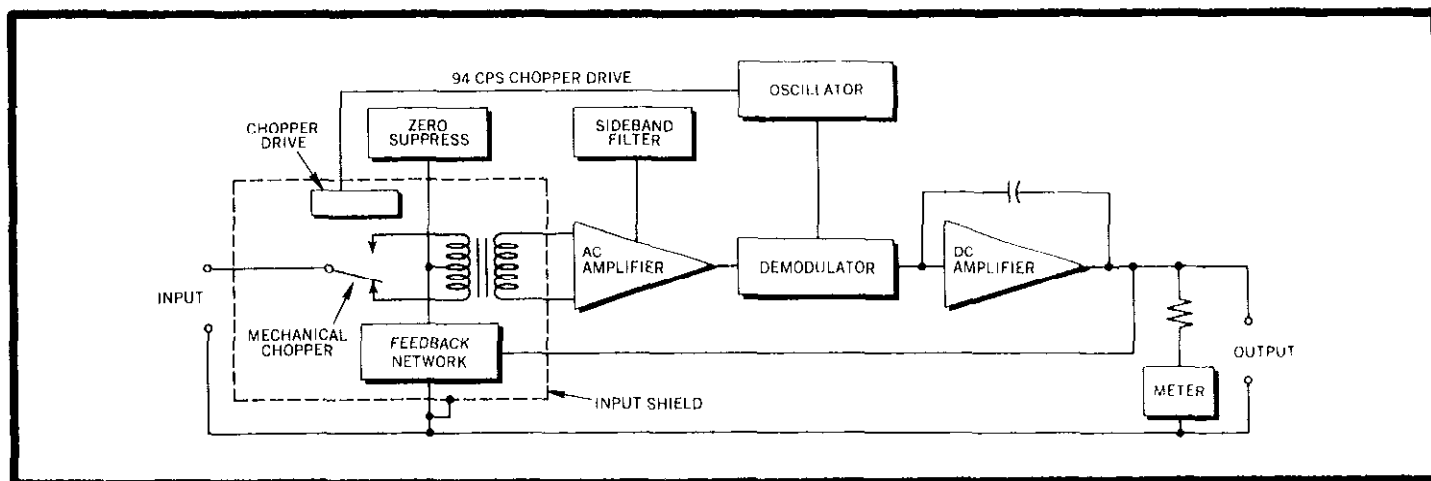

FIGURE 20. Block Diagram of Model 147 Amplifier Circuits.
a. The Model 147 consists of a chopper, ac amplifier and demodulator system followed by a dc amplifier. Feedback is applied to the whole loop. (See Figure 20.)